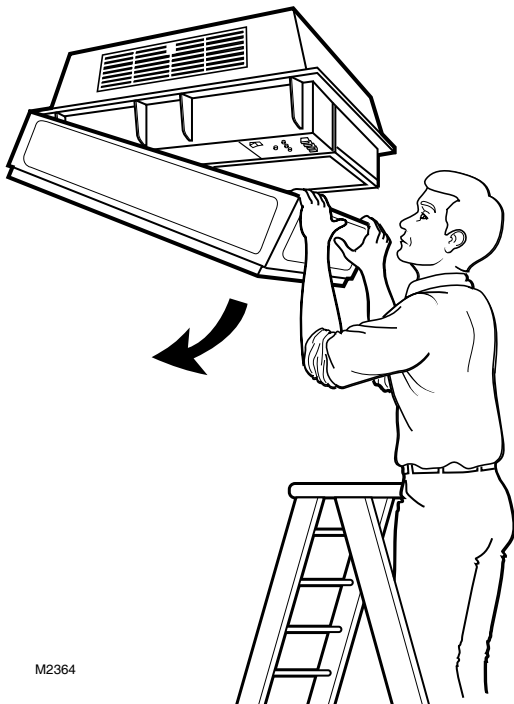

Fig. 13. Opening and closing F90 cover.
3. Carefully swing the opposite end of the cover upward and engage the latches. See Fig. 13. Assure the latches are connected properly.
1. Open the cover by pulling the two latches located on the front of the cover and swinging the cover down until it hangs. See Fig. 13.